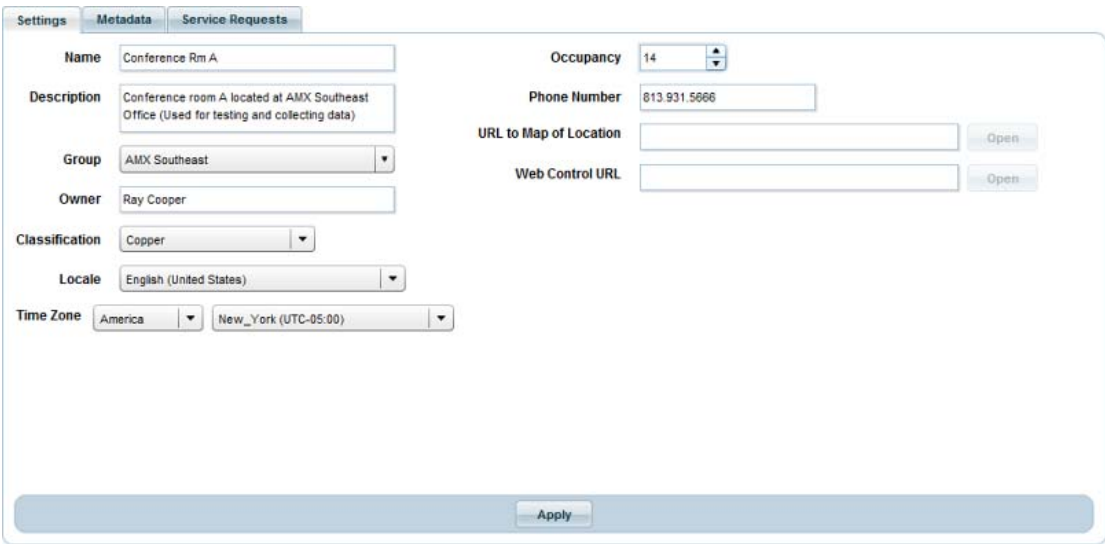

FIG. 187 Location Properties page - Settings tab (Editing Properties for an existing Location)
- 2. This opens the *Location Properties* page - **Settings** tab (FIG. 187).